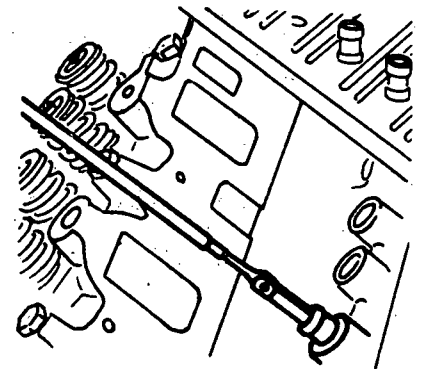

Fig. 1
- b) Remove the hydraulic valve lifters, (fig. 1).